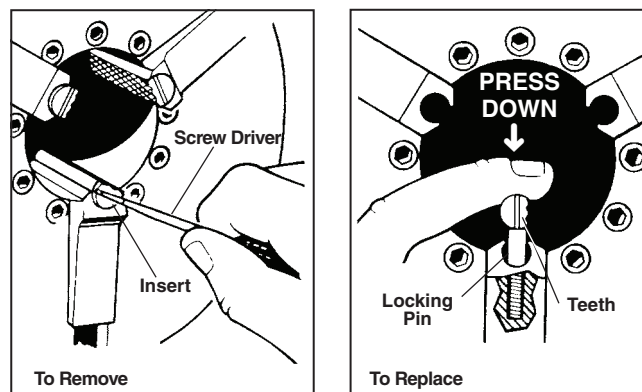

Figure 31 – Replacing Jaw Inserts
1. Place screwdriver in insert slot and turn 90 degrees in either direction. Remove insert (*Figure 31*).
2. Place insert sideways on locking pin and press down as far as possible (*Figure 31*).